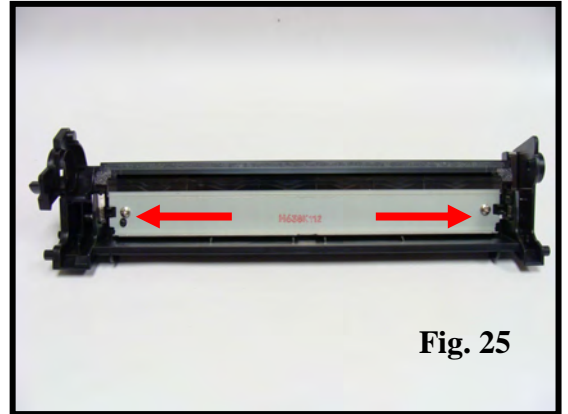

Fig. 25
25. Remove two screws that secure the wiper blade (Fig. 25).